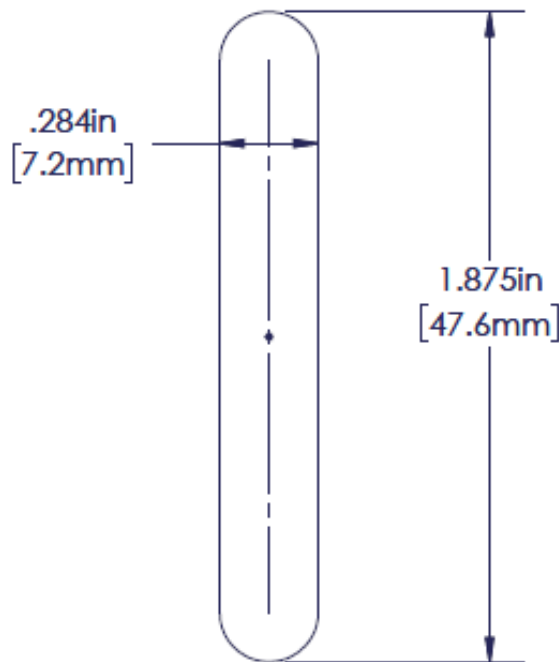

Figure 1
3. The hole dimensions shall be .284" wide by 1.875" long as shown in Figure 1.